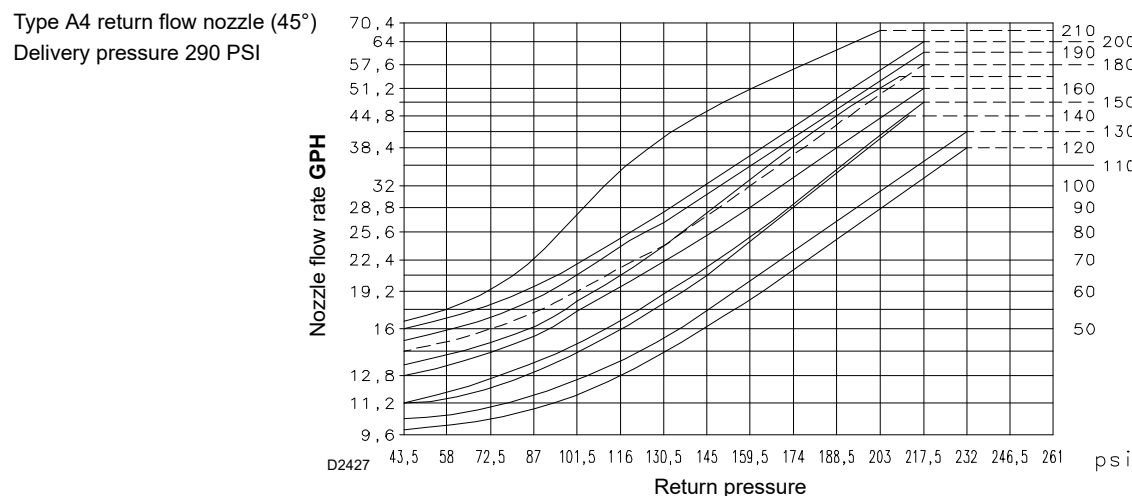

Fig. 19
In case an intermediate delivery between the two values indicated in the diagrams (Fig. 19 at page 19) is required, a nozzle with higher delivery must be chosen.
Diagram (Fig. 19) indicates this relationship for type A4 return flow nozzles with pump delivery pressure of 290 PSI.
The values indicated in the right side of the diagram (Fig. 19), refer to the data printed on the nozzle.
- When the setting is carried out, verify manually that no slow-down occurs between 0° and 90° and that the maximum and minimum pressures correspond to those chosen as per diagrams (Fig. 19).